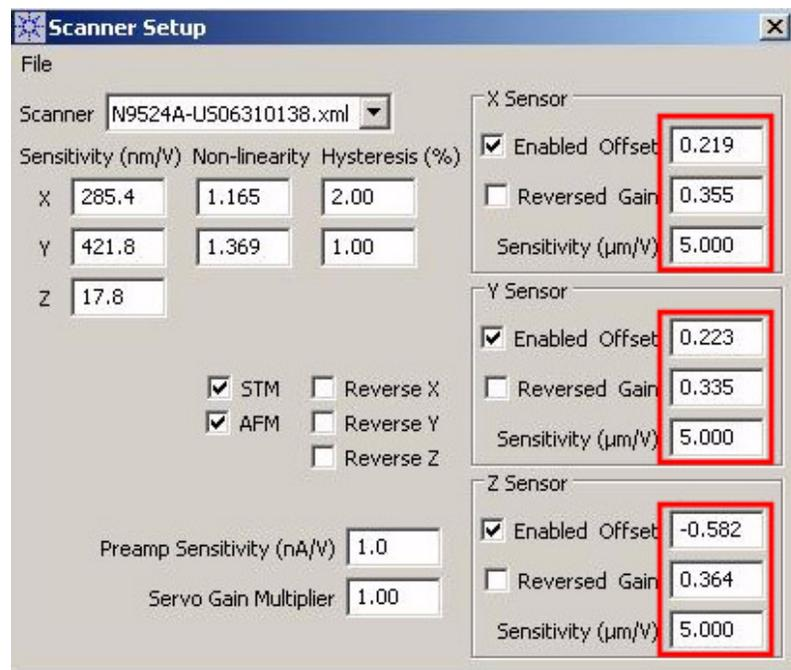

Figure 104 Scanner Setup window
- 3 Choose **Scanner >Edit** to open the **Scanner Setup** window (Figure 104).
- 4 The values shown in Figure 104 for the X, Y and Z Sensor Offset and Gain are typical and represent a good starting point for the calibration process. Type in the values, and ensure that the **Enabled** boxes are all checked.